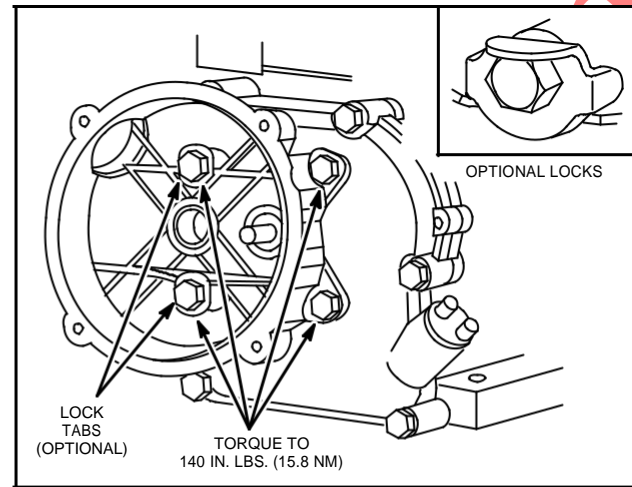

Fig. 134 - INSTALLING GEAR CASE
6. Bend locks up against flats on head of cap screws, Fig. 134, when used.